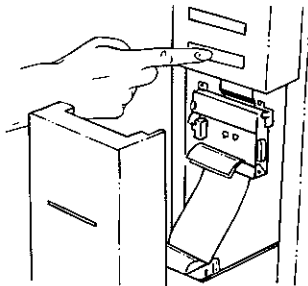

Figure 3.28 Advancing the paper.
- to 160 mm (6 inches) of paper exits the printer cartridge (Fig. 3.28).